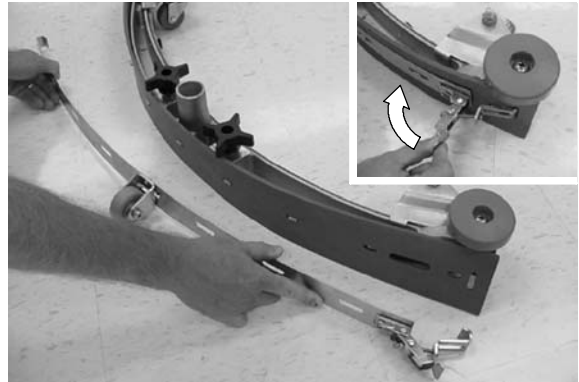

FIG. 37
2. Loosen the band clamp and remove the band from the squeegee assembly (Figure 37).